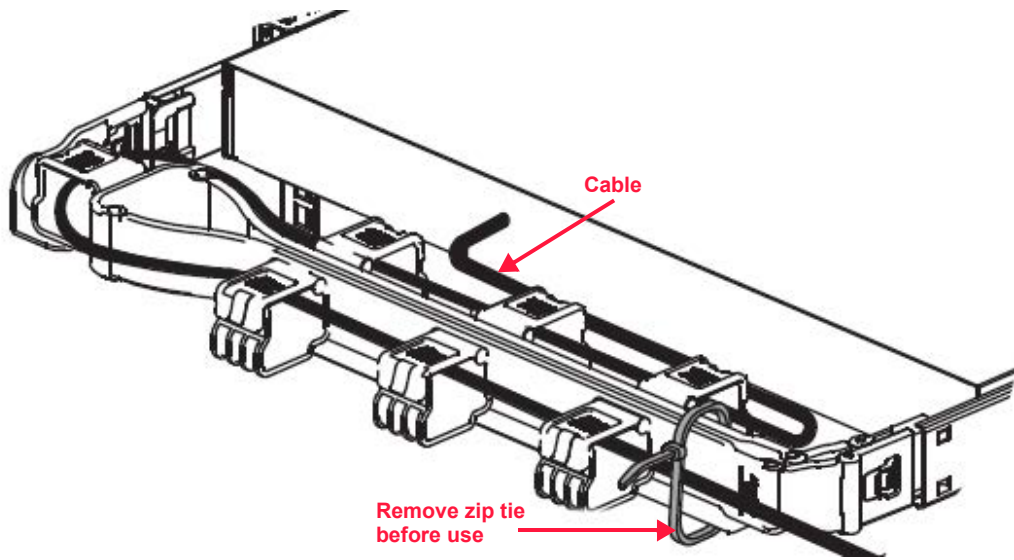

Figure 4.21 Assembled CMA
**CAUTION:** If the CMA ships preinstalled, a zip tie strap will secure the CMA to the cross bar during transportation to prevent damaging the CMA. This strap must be removed prior to initial use. See Figure 4.21 on page 47.
3. Slide the CMA body connector (E) onto the body rail connector (F) until the connector release button clicks.
4. Slide the inner CMA arm connector (A) onto the inner rail connector (B) until the connector release button clicks.
5. Slide the outer CMA arm connector (C) onto the outer rail connector (D) until the connector release button clicks.
7. Starting with the thickest gauge cable first, run each cable through the loops on the CMA as demonstrated in Figure 4.21.